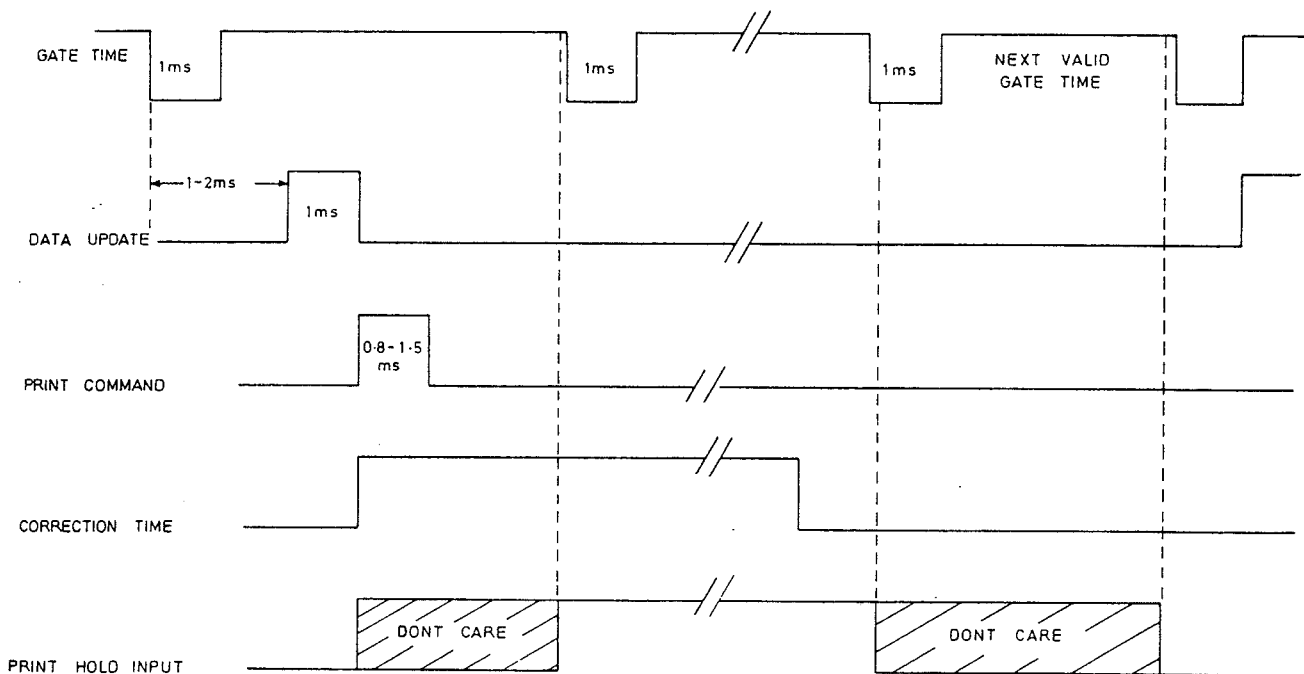

Fig. A3
17. In some applications it is not possible to use the interface in the manner described in Para 12. For example, in control systems, where the output of the interface is used as feedback to the device on the input of the counter, problems arise because the next gate time has already started before the information becomes available from the previous one. Therefore, even if the feedback correction is made almost instantly, the reading at the end of the next gate time will be incorrect. Alternatively, if the correction process takes more than one gate time, the end of gate time immediately following the process will also give incorrect results. These problems may be overcome by applying a Hold signal to the Print Hold input (pin 49) for the length of time that the correction takes, plus an additional time to ensure that the gate time from which the next data is to be taken cannot start until the correction process has been completed, as shown in Fig. A3.